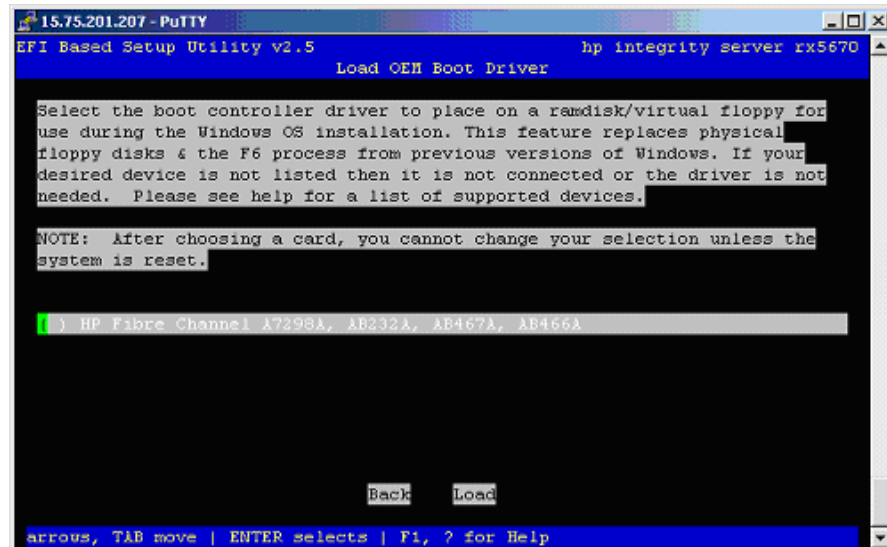

Figure 20: Load OEM boot driver
3. Choose **Load OEM Boot driver** or press **B** to display the Load OEM Boot driver screen as shown in Figure 20.